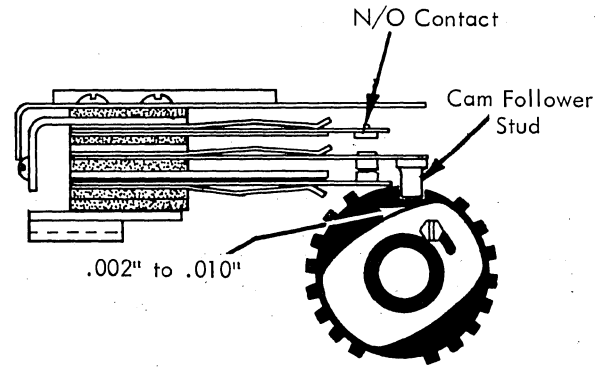

FIGURE 5-5. Shift Contact Assembly C-7
- Adjust the C-7 mounting bracket so the cam follower stud will be .002" to .010" from the cam with the shift ratchet latched home (Figure 5-5). Be sure the follower stud is centered vertically on the camming surface.